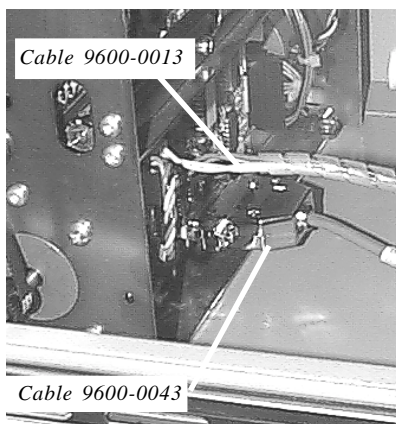

Figure 3. Connections for DC power and communications.
6. Refer to Figure 3. Connect cable 9600-0043 to the DB25 connector (PL6) on the rear of the dispenser mechanism. Secure the DB25 cable to the dispenser with two screws attached to the connector. Insert the Molex power plug attached to cable 9600-0013 into the connector marked PL2. This plug is keyed so that it can only be inserted in one direction.